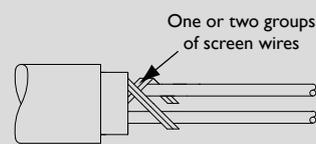

Fig. 2
- 2.1 Unravel one or two groups of wires from the shielding or screen wires, then remove the remainder of the screen wires (See Fig. 2) and twist along their full length.